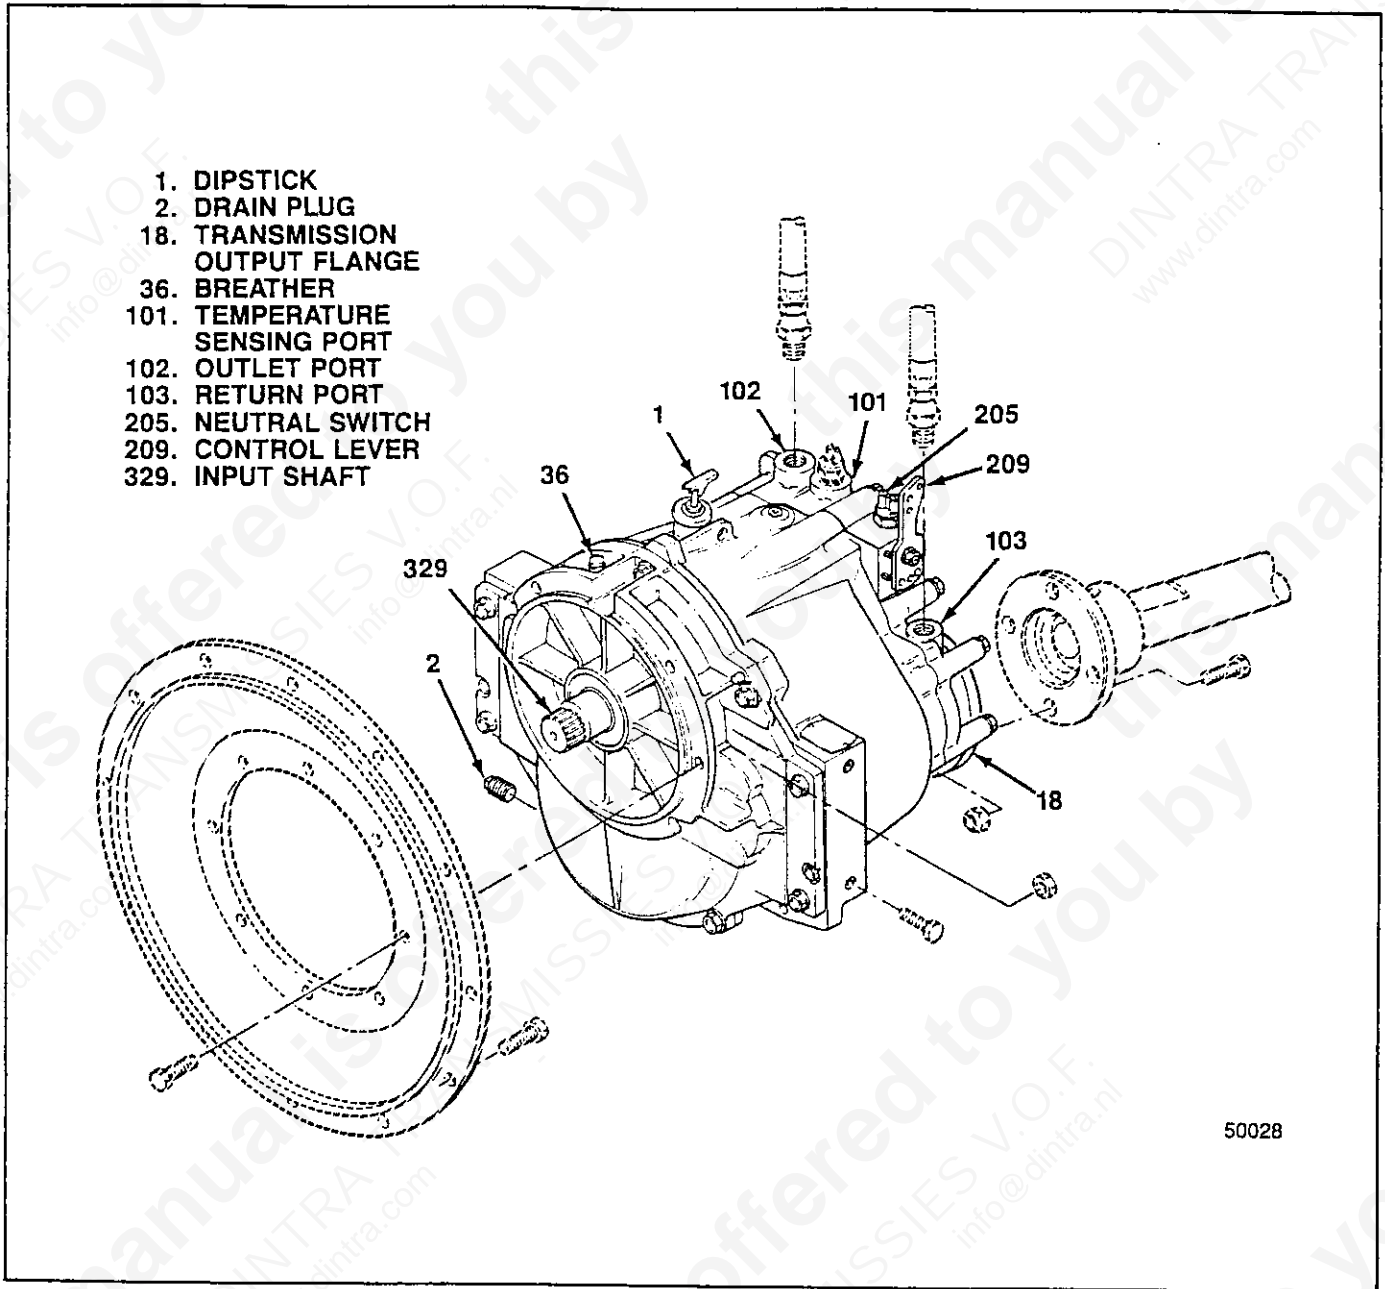

Figure 2-1. Transmission Installation
1. Place a suitable container near the oil (fluid) cooler return port (103) (see figure 2-1).
2. Remove the cooler line from the transmission return port (103). Drain all fluid from the return line into the container. Reconnect the cooler return line and torque fittings to 25-35 lb-ft (34-47 Nm).
3. Remove the dipstick (1).
4. Place a suitable container under the transmission and remove the drain plug (2). Drain all fluid from the transmission and install the drain plug. Torque plug to 20-45 lb-ft (27-34 Nm).
2-13. REMOVAL OF TRANSMISSION. Refer to the OEM manual for specific instructions regarding enclosures, mounts, supports, shift linkage and other components related to the transmission. A suitable hoist or other means for completely supporting the transmission will be required. Proceed as follows with the engine off (see figure 2-1):
2-15. INSTALLATION OF TRANSMISSION. Refer to the OEM manual for specific instructions regarding enclosures, mounts, supports, shift linkage and other components related to the transmission. With transmission supported in a suitable manner, proceed as follows (see figure 2-1):